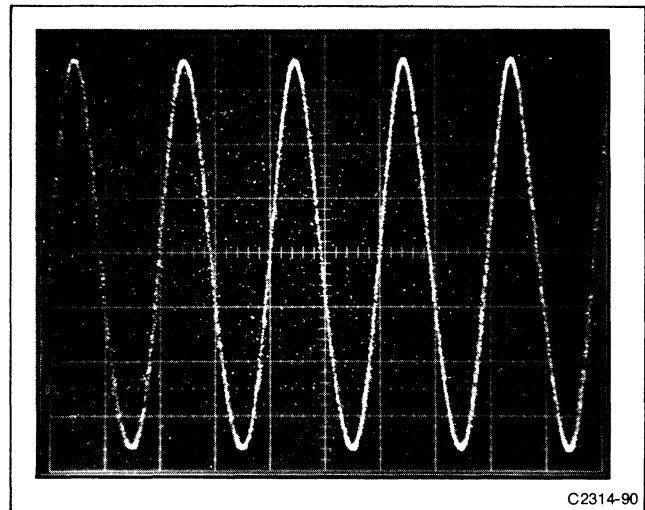

Figure 5-1. Typical display of Photographic Writing Rate test.
- o. **CHECK**—that the photograph shows the 1 GHz sine-wave signal clearly (see Fig. 5-1 for typical photograph).